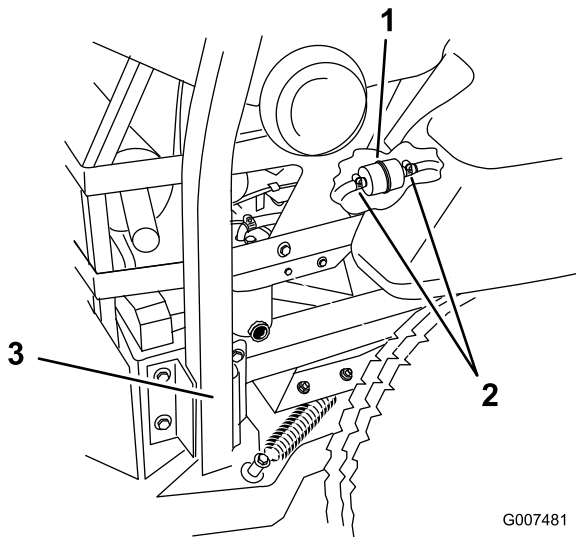

Figure 49
5. Loosen the two hose clamps and disconnect the fuel lines from the fuel filter (Figure 49).